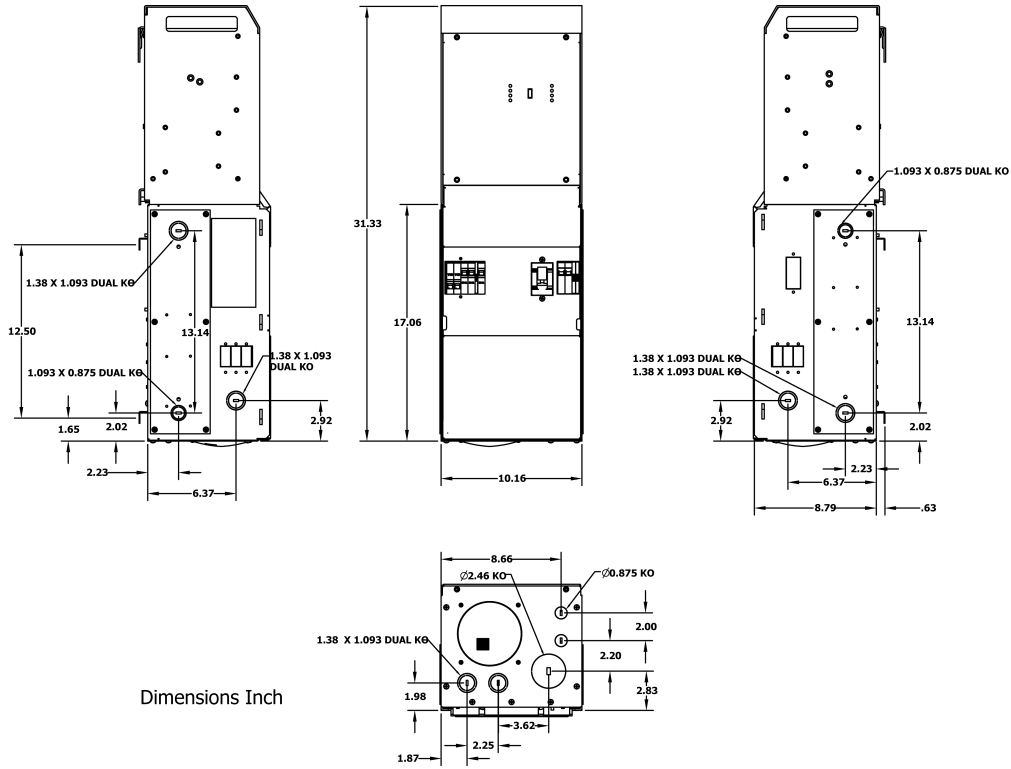

Figure 2 - 3k VE Panel Dimensions
- Knock outs are provided on the sides and bottom of the VE Panels and could be utilized to run wire and data cables via conduit between the systems. Refer to Figures 2 and 3 for examples.
- Refer to the dimensional drawings in Figure 2 and 3 to determine an appropriate area to install the VE Panel enclosure and inverter/charger system. The following should be considered:
- The Victron inverter/charger should be mounted first to the wall prior to installing the VE Panel. Pay attention to the total height of the system. Refer to the dimensioned drawing in Figure 2 and 3.